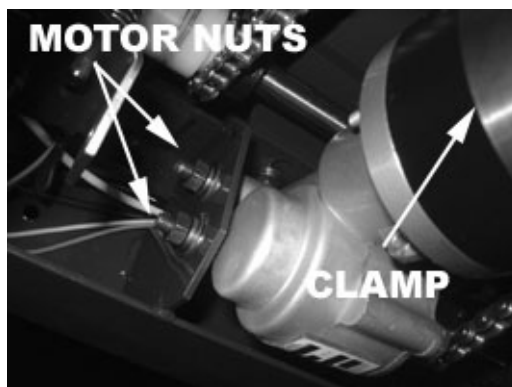

FIGURE 4: LOOSENING BOLTS AND REMOVAL OF CLAMP
7. Refer to **Figure 4**. Loosen motor nuts.
8. Refer to **Figure 4**. Remove motor clamp.